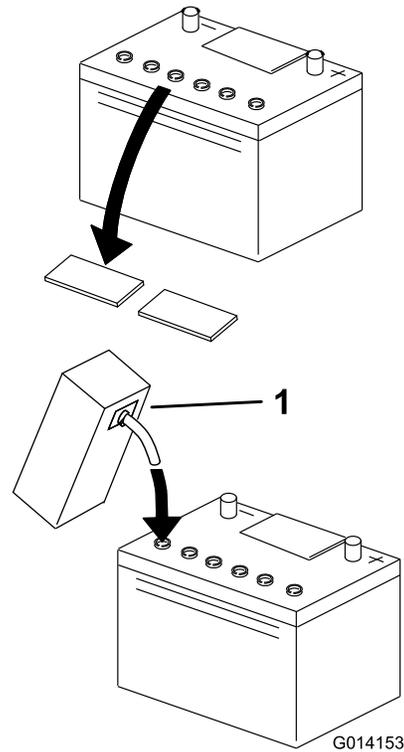

Figure 4
4. Clean the top of the battery and remove the vent caps (Figure 4).
5. Carefully fill each cell with electrolyte to the proper level (Figure 4).
- If needed, fill each cell to the proper level (Figure 4).